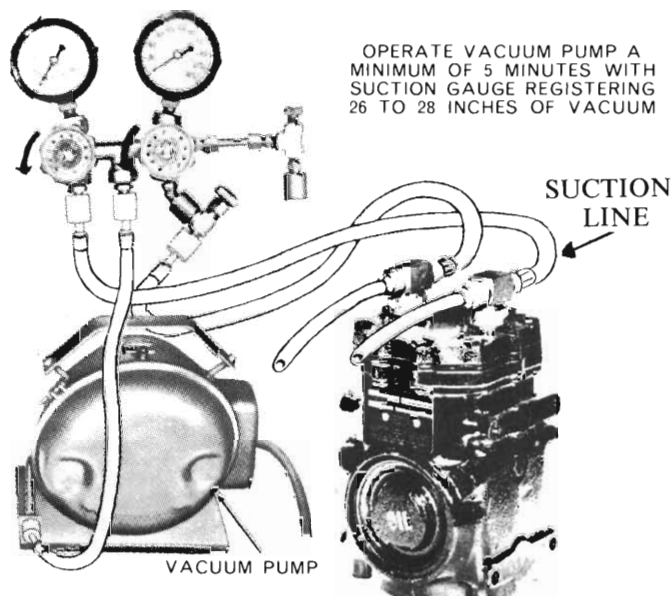

Fig. 29 - Evacuating the system
- (1) Connect gauge set manifold to compressor and long test hose from gauge set manifold centre connection to vacuum pump as shown in *Fig. 29*.
- (2) Open both gauge set manifold valves, and the needle valve (where equipped).
- (3) Start the vacuum pump and operate until the evaporator suction gauge registers at least 26"